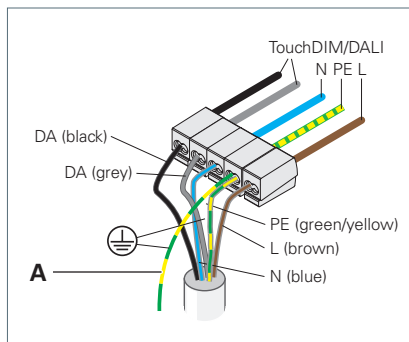

Fig. 16: Connecting the luminaire.
- Connect the grounding cable **A** at the connection side of the luminaire to the protective earth conductor terminal, see Fig. 16.